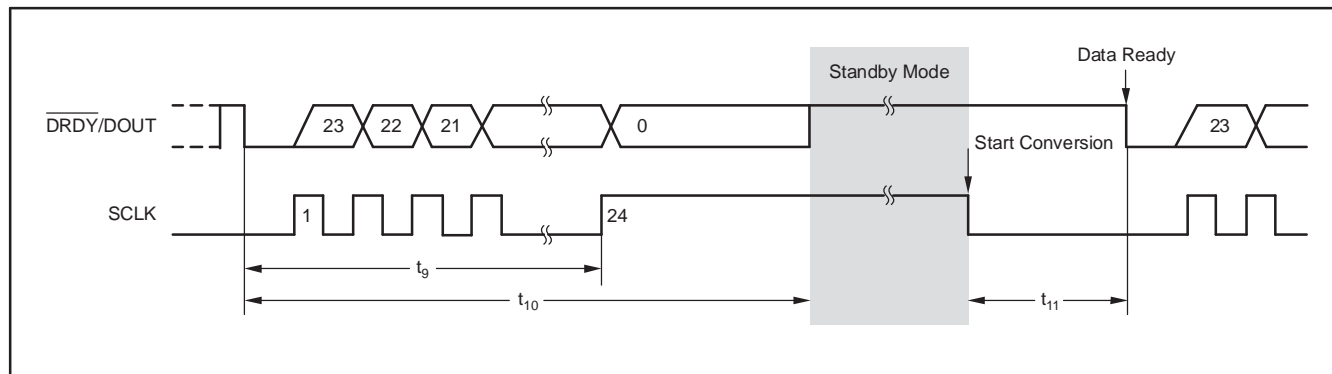

Figure 37. Standby Mode Timing (can be used for single conversions)
Standby mode dramatically reduces power consumption by shutting down most of the circuitry. In Standby mode, the entire analog circuitry is powered down and only the clock source circuitry is awake to reduce the wake-up time from the Standby mode. To enter Standby mode, simply hold SCLK high after $\overline{\text{DRDY}}/\text{DOUT}$ goes low; see Figure 37. Standby mode can be initiated at any time during readback; it is not necessary to retrieve all 24 bits of data beforehand.
- Changed min and max variables of t_{10} row in table below Figure 37. 21